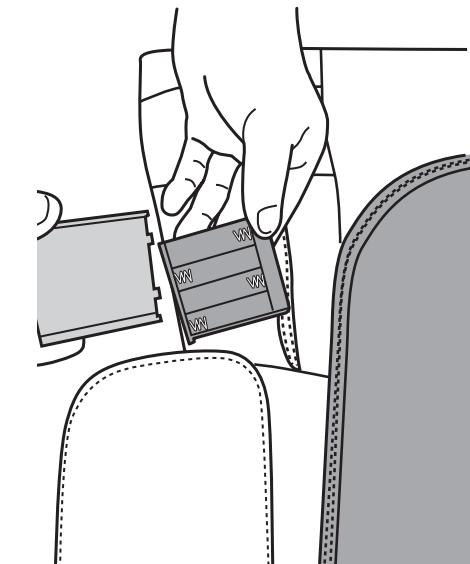

Fig.12
4. Use your fingers to remove the battery compartment cover, then install four AA alkaline batteries (Fig.12).